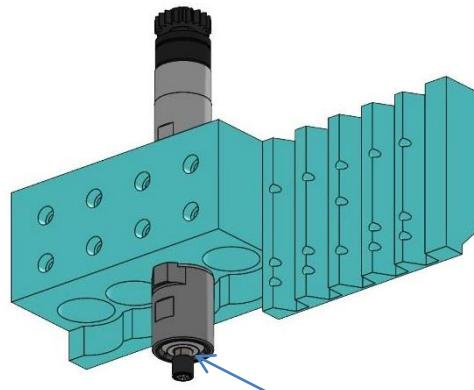

Fig. 4
3. During the mounting or the dismounting of cutting tools, block the broach on flats planned for that purpose (Fig. 4, D), using an adapted wrench.